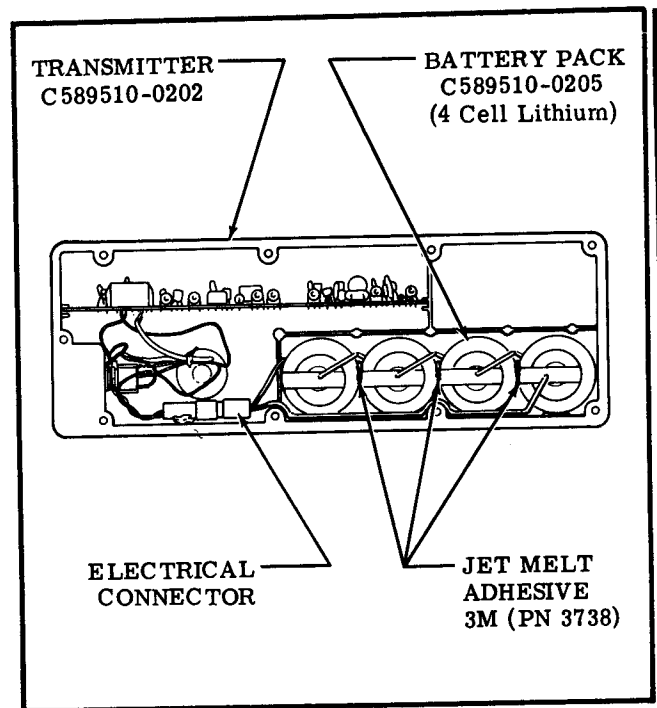

Figure 16-16. Lithium 4 Cell Battery-Pack Installation
- d. When replacing a 6 cell magnesium battery-pack with a 4 cell lithium battery-pack, merely disconnect the old battery-pack and replace with a 4 cell battery-pack, as shown in figure 16-16.
16-94. REMOVAL AND INSTALLATION OF LITHIUM FOUR (4) CELL BATTERY-PACK. (Refer to figure 16-16.)
- e. Connect the electrical connector as shown in figure 16-16.